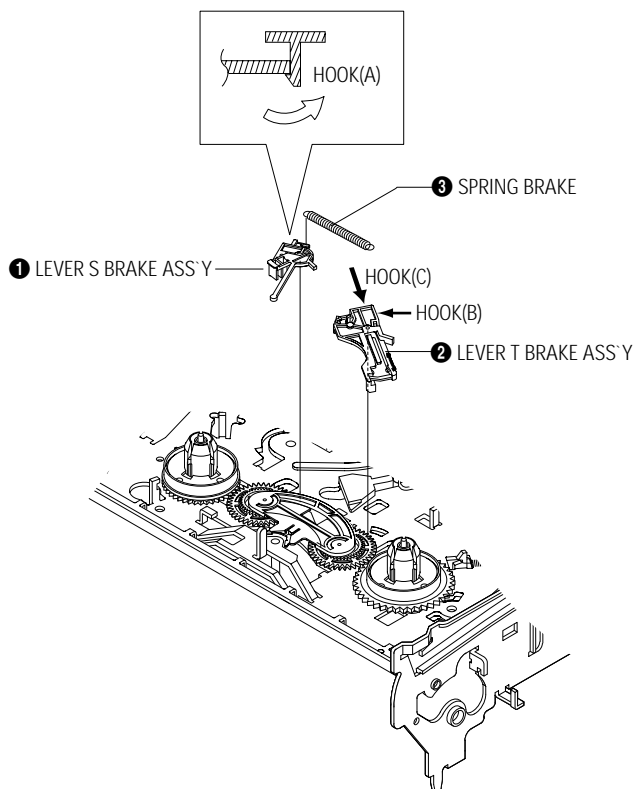

Fig. 4-22 Lever Brake S, T Ass'y Removal
- 1) Remove the Lever Brake S Ass'y (Refer to Fig 4-22)
- 2) Remove the Spring Tension Lever ❶.
- 4) Lift the Lever Tension Ass'y ❷ & Band brake Ass'y ❸.
- 1) Release the Hook [A] and the Hook [B], [C] in the direction of arrow as shown in Fig 4-22.
- 2) Lift the Lever S, T Brake Ass'y ❶, ❷ with spring brake ❸.